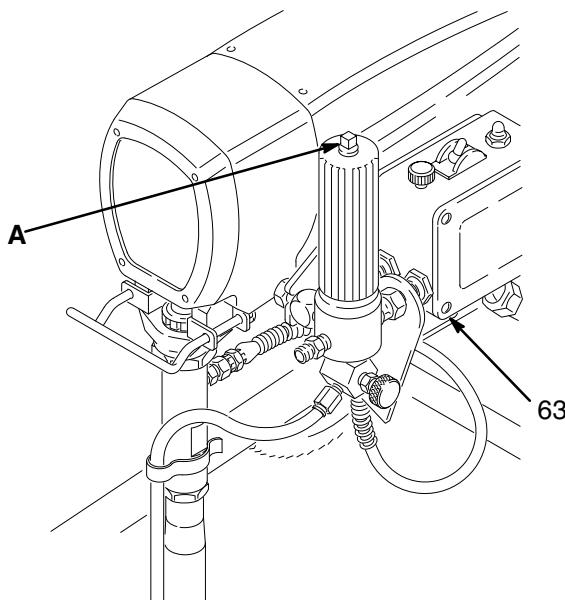

Fig 30-1
2. See the above list of tools and equipment needed. Remove the plug (A) from the top of the fluid filter and install the fluid-filled pressure gauge. See Fig 30-1. Connect the gun to the **new** test hose and connect the hose to the sprayer outlet.
3. Remove the pressure control cover (63).